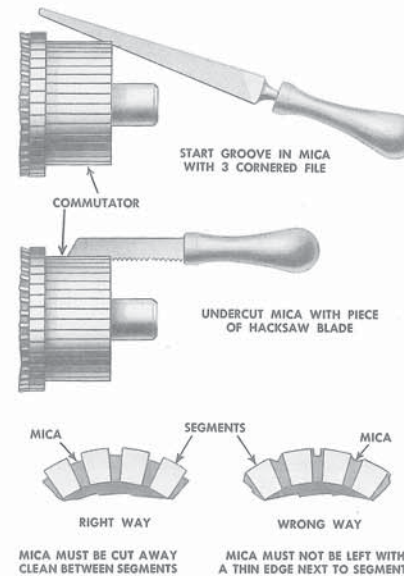

Fig. 37. Undercutting Commutator Mica
**Undercut Commutator Mica.** To undercut high mica condition, use a special undercutting tool and machine or a hand tool made by grinding a fine-tooth hack-saw blade to fit the exact mica width; wrap friction tape around one end to provide a handle. Undercut mica square, 1/32 inch deep the full length of the commutator bars as shown in Figure 37. After this operation, remove burrs from commutator bar edges with No. 00 sandpaper and blow dust out with compressed air.